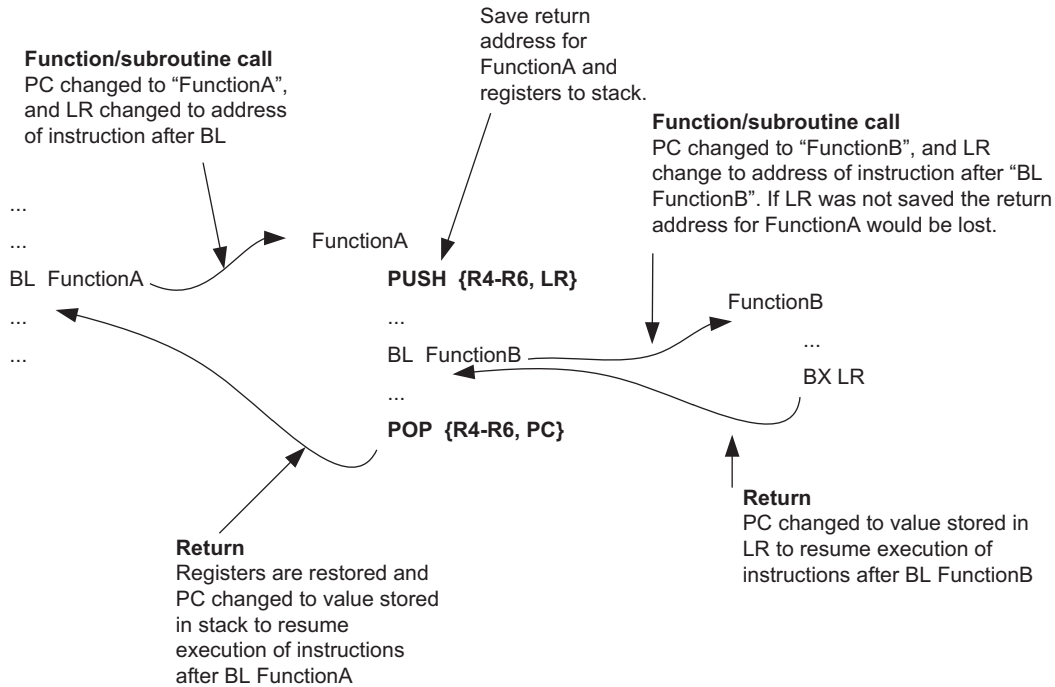

Figure 6.3:
operation to low registers and the Program Counter (PC) in one instruction. This allows you to combine register values restore and return with a single instruction. For example, if the registers R4 to R6 are being modified in "FunctionA," and needed to be saved to the stack, we can write "FunctionA," as shown in Figure 6.3.